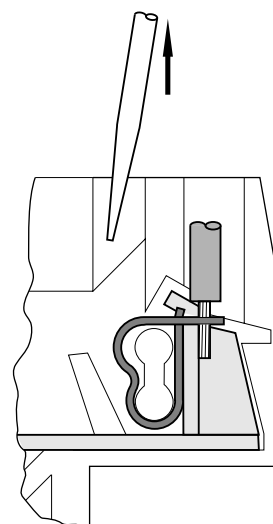

Figure 12
5. Insert the cable into the round hole **(2)**, making sure that the cable is seated in the hole of the contact spring, carefully remove the screwdriver from the square hole (See Fig. 12). Check that the wire is securely clamped.